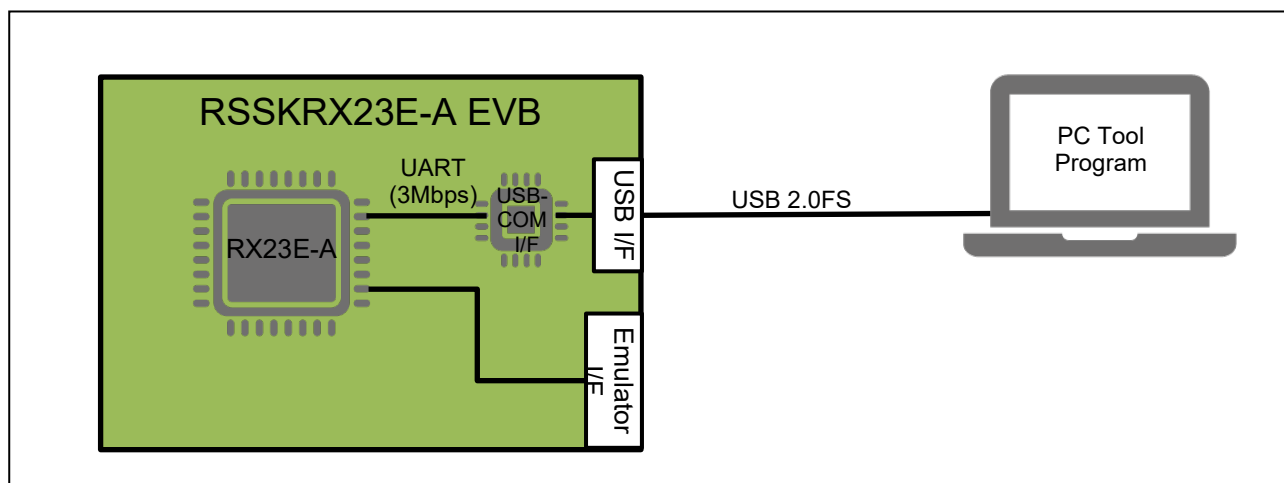

Figure 2-2 System Connection Diagram
1. Connect the PC and EVB with a USB cable. Figure 2-2 shows a connection diagram. For details on the board setting, refer to "RSSKRX23E-A User's Manual: Board".